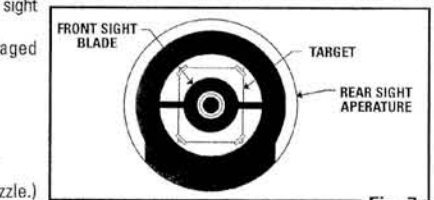

Fig. 7
- The air rifle is correctly aimed when the front sight blade is positioned exactly in the center of the rear sight aperture (peephole). The bullseye should appear to rest in the center of the circle of the front sight blade (Fig. 7).